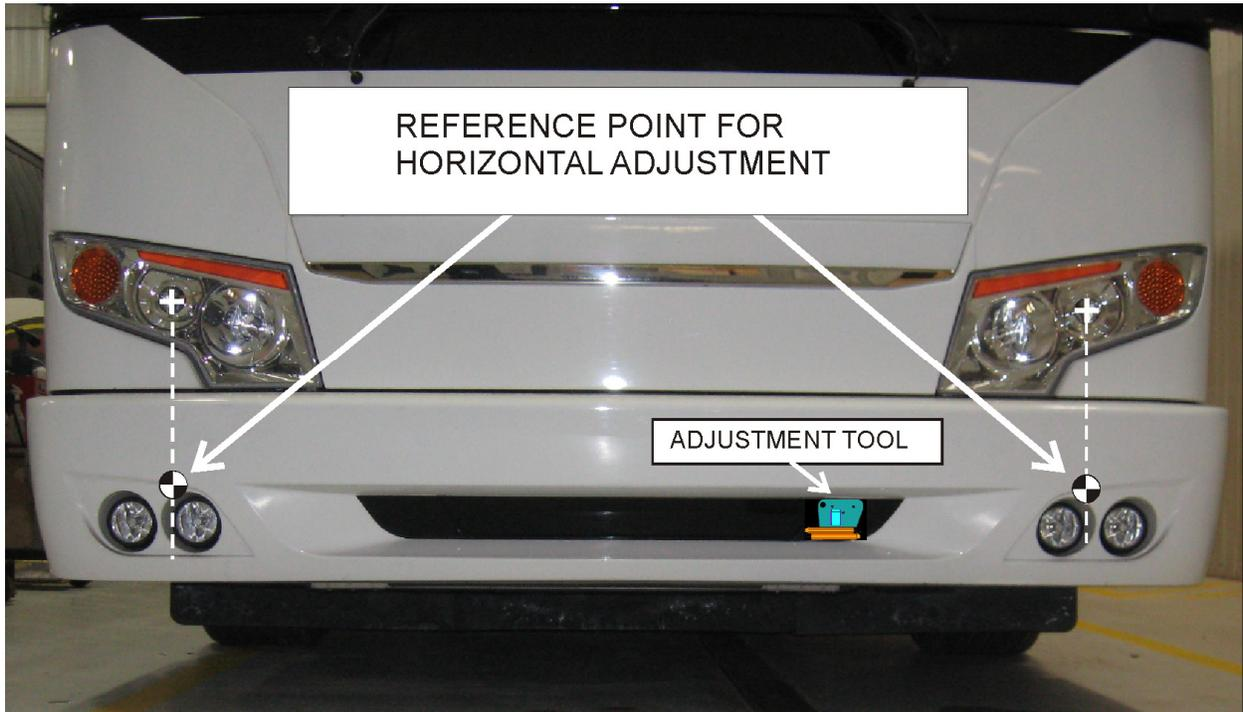

FIG.13
18. On the bumper, define two reference points located vertically from the headlamps and at the same height as shown on figures 13 & 14. Later in this procedure, the distance between the bumper surface at these reference points and the laser beam will be measured and then adjusted to be equal on both sides.